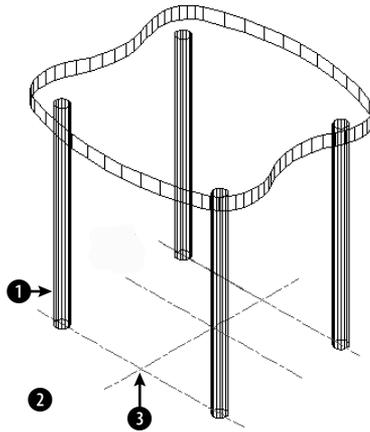

Figure 21-18: Part of a 3D chair.
11. To see the result, type **hide ↵**. Remember that the polyline has no top or bottom surface. Imagine your model as a glass-bottomed chair. It should look like Figure 21-18.
12. Choose Tools ⇨ Inquiry ⇨ List. Select the front-left leg at **1** in Figure 21-18. Press Enter. The center (of the circle at the bottom of the leg) is X = 3.5000; Y = -7.0000; Z = 0.0000.
15. Choose Tools ⇨ New UCS ⇨ View. The UCS is now parallel to your current view. Choose Draw ⇨ Text ⇨ Single-Line Text. Start the text at **2** in Figure 21-18. Set the height to 1.0 and the rotation to 0. Type **A glass-bottomed chair**. Press Enter twice to end the command.